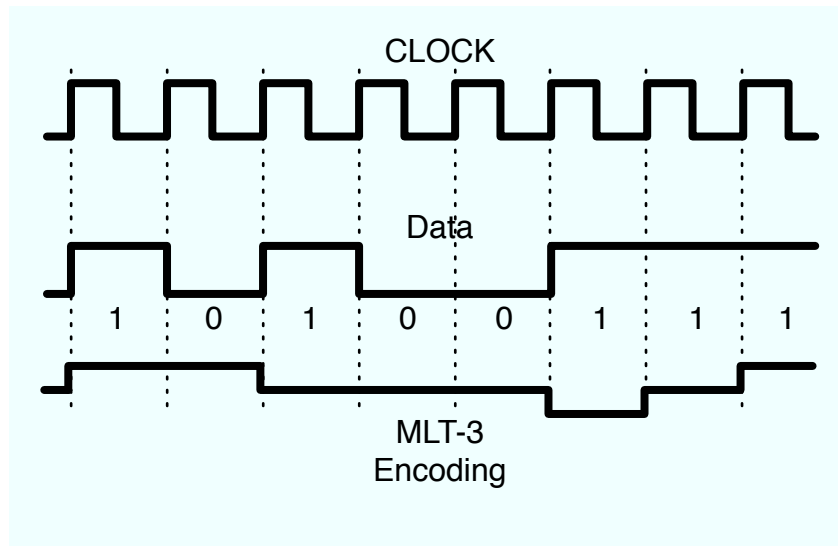

Figure 11.13: An example of MLT-3 encoding
A big difference between 10BASE-T and 100BASE-T(X) is in the data encoding. 10BASE-T used Manchester encoding for its data transmission while 100BASE-T(X) used an encoding scheme known as MLT-3, shown in Figure 11.13, on the next page. MLT-3 (Multilevel Transmission with 3 levels) encoding offers improvement of Manchester encoding because it is less bandwidth intensive (that is, there are less data transitions than Manchester for the same information). It is also bipolar, alternating between a positive, a 0, and a negative voltage state. This feature helps reduce electromagnetic interference.